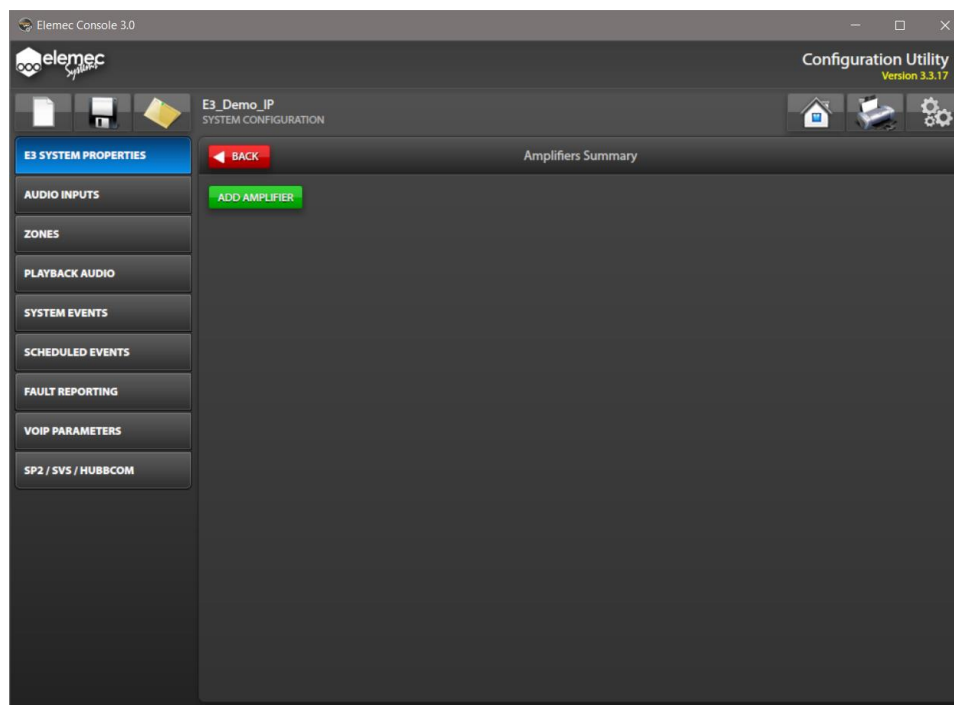

Figure 20. Amplifiers Summary
1. Click the **AMPLIFIERS** button on the **SYSTEM PROPERTIES** screen to open the **AMPLIFIERS SUMMARY** screen (see Figure 20). The summary screen displays all amplifiers in the system.